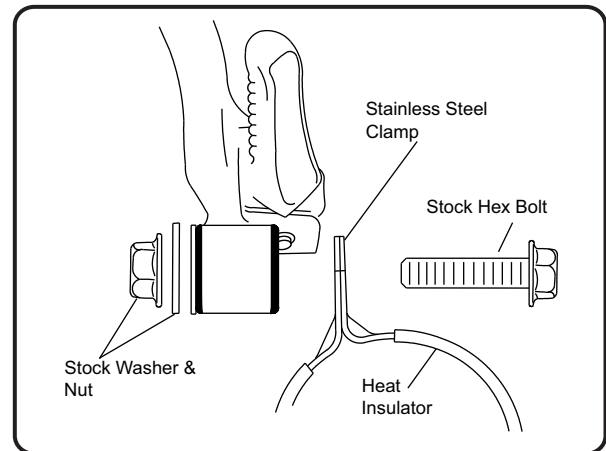

Fig. 1
- 8 Insert heat insulator into muffler clamp and slide over muffler. (See Fig. 1)
- 14 Check for proper clearance between new exhaust system and motorcycle. (i.e. Cowlings, radiator, oil pan, swing-arm etc.) If any problem is found, please carefully follow through the installation steps again. If problem still persists, please call Yoshimura tech. department at (800)634-9166 / in CA (909)628-4722.